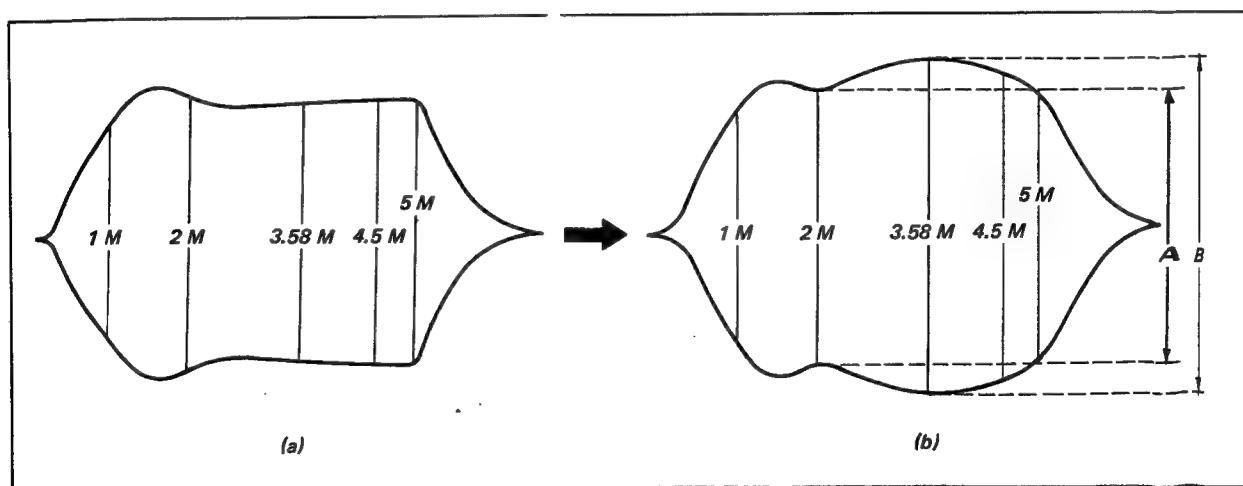

Fig. 5-5. Playback rf signal
Adjust for: Correct frequency response as shown in Fig. 5-5.
4. Adjust R201 for Ch A (R202 for Ch B) so that the amplitude at 5 MHz is equal to that at 2 MHz. See Fig. 5-5 (a).
6. Adjust R211 and R204 for Ch A (R202 for Ch B) to obtain a rf envelope approximately flat from 2 MHz up to 5 MHz. See Fig. 5-5 (a).
See Fig. 5-5 (b).